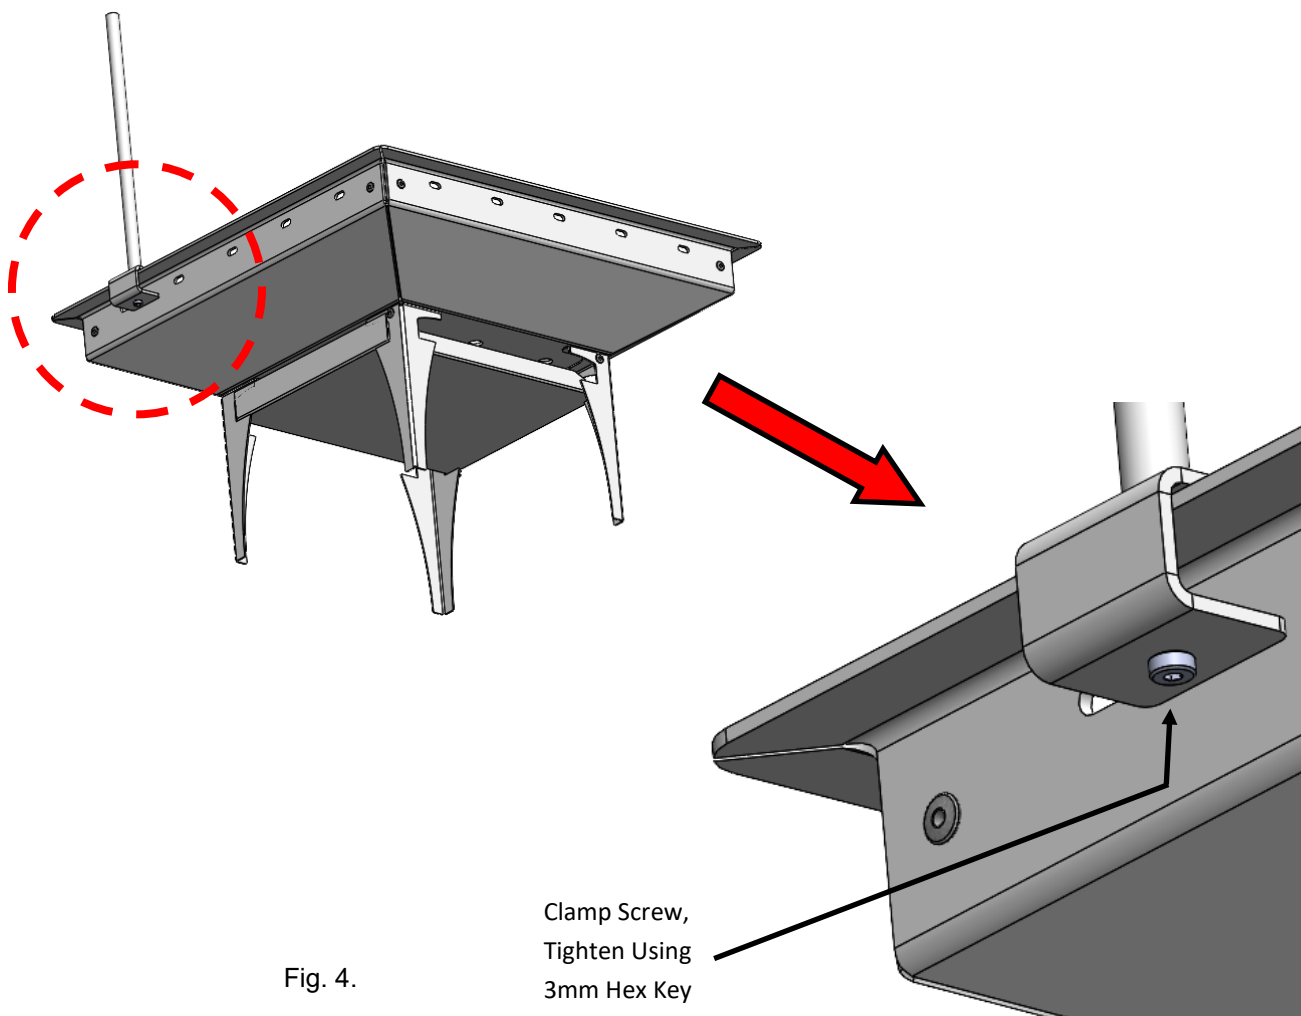

Fig. 4.
Step 2 : Take the upright clamp assembly and loosen the base clamp screw. Position the clamp over the edge lip on the terrace fire pit. See Fig. 4.